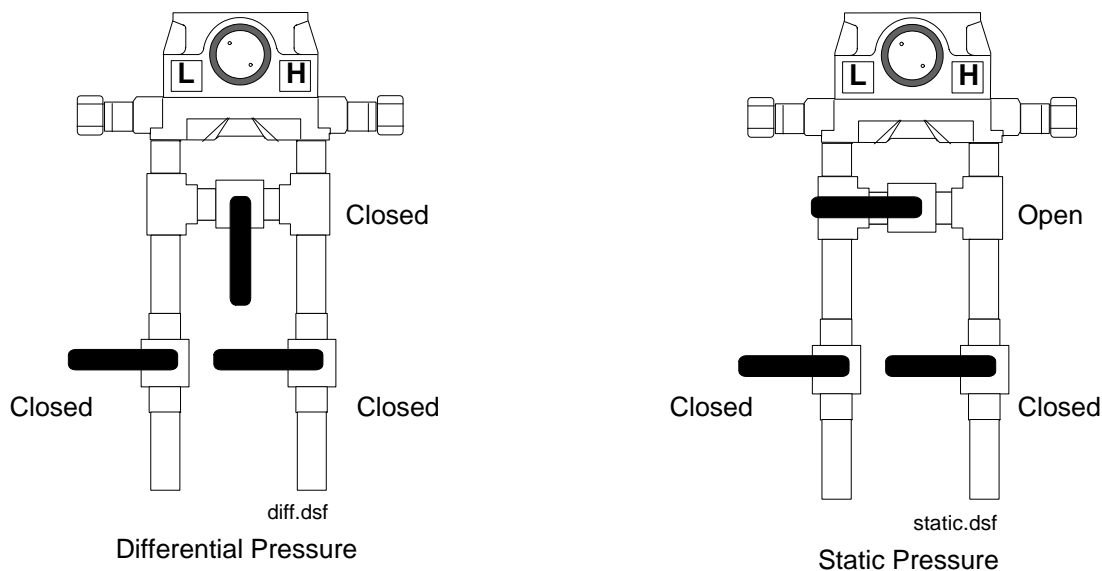

Figure 8-3. Pressure Calibration Open/Close Orientation
5. If you are calibrating a **pressure input**, set up the pressure calibrator and make the necessary connections to the DVS. Refer to Figure 8-3 for the line orientation during the calibration.